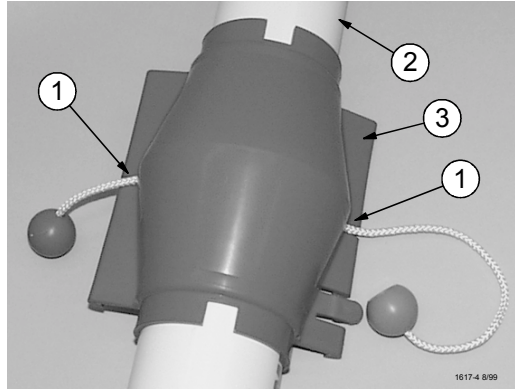

Figure 5. Top placed over the Rotary Slide
4. Snap the Outlet Top to the Fill System Pipe over the Rotary Slide as shown in **Figure 5**. Make sure the Cord comes out through the notches on each side of the Outlet Top as shown in **Figure 5**.